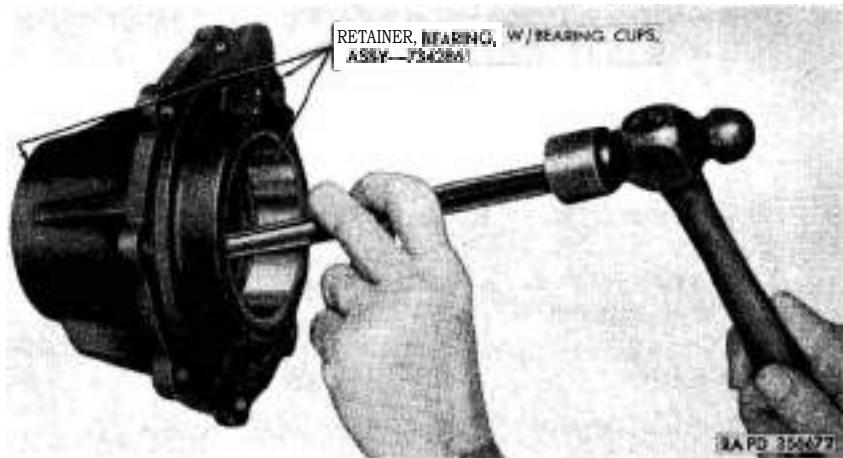
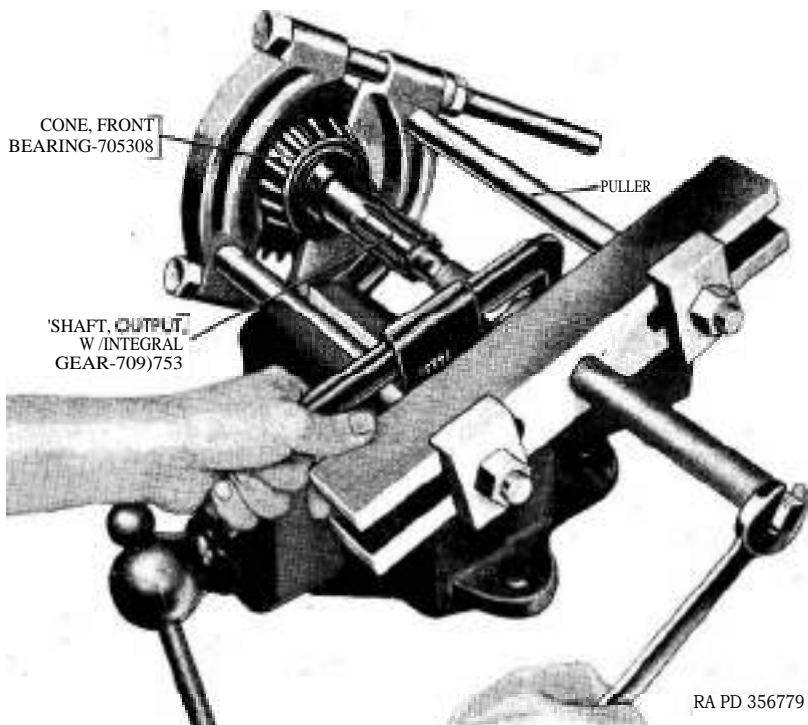

Figure 126. Removing bearing cups from bearing retainer.
Figure 127. Removing front bearing cone from output shaft with puller.
- (1) Remove output shaft with integral gear (AL), rear bearing cone (VV), bearing shims (AC, AD, AE, and AF), speedometer drive gear spacer (AG), and speedometer drive gear (AH) from bearing ~~retainer~~.
- (2) If inspection (par. 143a) of the front and rear bearing cups (WW and AJ) reveals that replacement is necessary, remove them with a bronze drift and hammer (fig. 126). Openings are provided in the bearing retainer casting for the bronze drift.
- (3) Remove vent assembly (D) from bearing retainer.
e. Remove Front Bearing Cone From Output Shaft. Remove front bearing cone (AK) from shaft with a puller (fig. 127).
- (1) Remove output shaft rollers snap ring (AN).
- (2) Remove output shaft rollers (AM) from counterbore of output shaft.